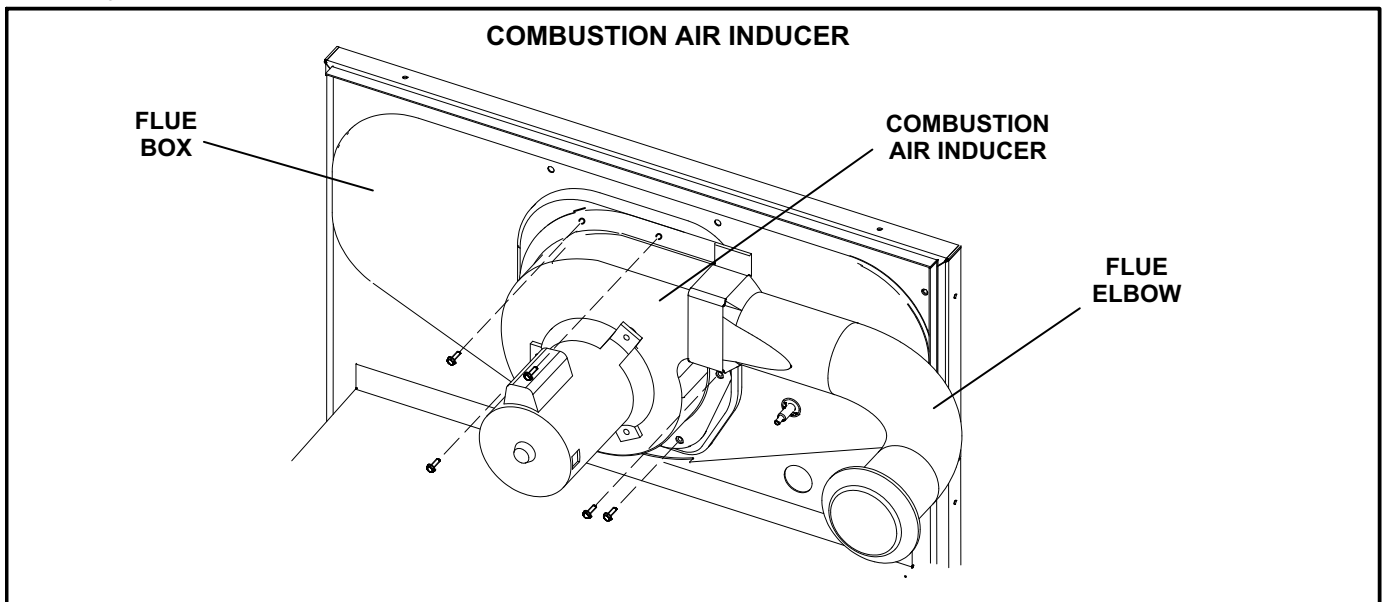

FIGURE 4
- 4- Remove screws securing combustion air inducer to flue box. Remove combustion air inducer. See figure 4.